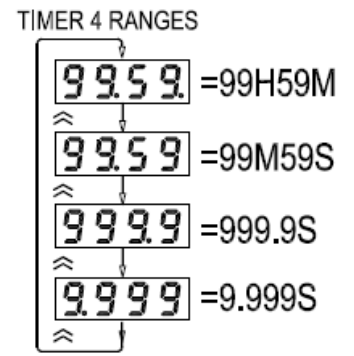

FIG 9A
- 2 USE UP [^] TO SELECT TIMER RANGE. 4 TIMER RANGES AVAILABLE FIG 9A